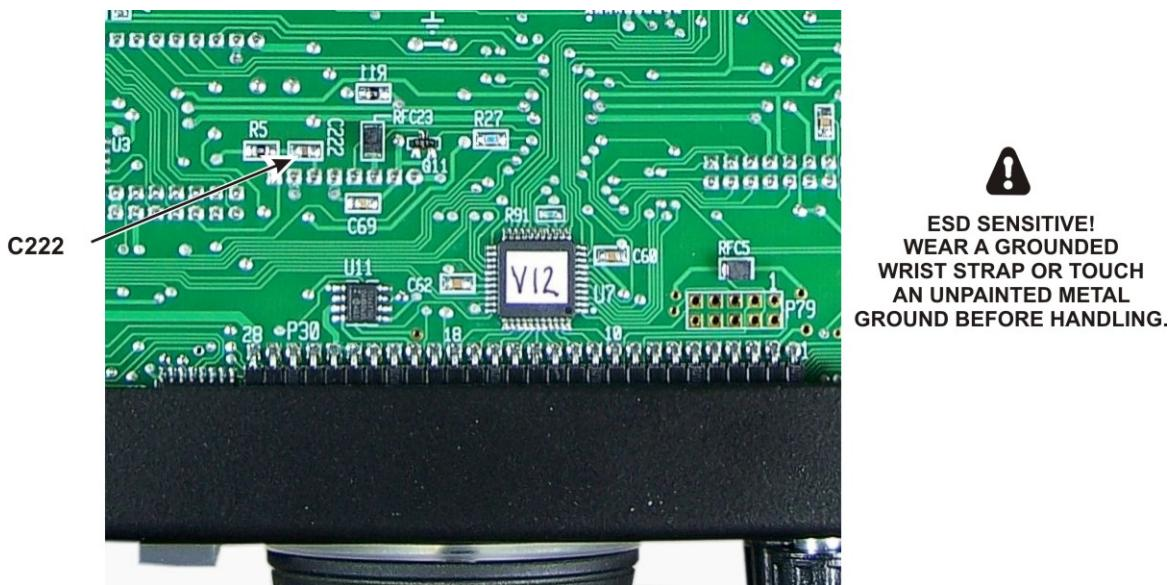

Figure 1. C222 Location on the Bottom of the RF board.
- Locate surface mount capacitor C222. It is near the center, almost directly behind the VFO A tuning knob (see Figure 1).